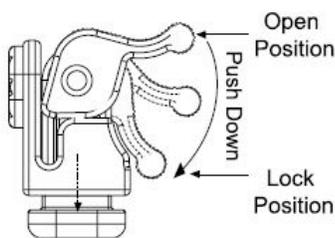
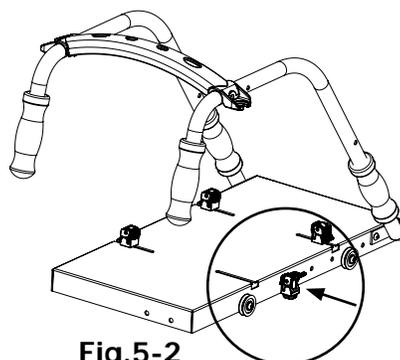

Fig.5-1
Fig.5-2
2 Pull the Sewing Machine Clamp Handle in the open position (see **Fig.5-1**) and slide it into the slot on the Top Plate until it is touching the sewing machine. Push the handle down to lock the Clamp into position (see **Fig.5-1** and **Fig.5-2**). Repeat this with the remaining (3) clamps.